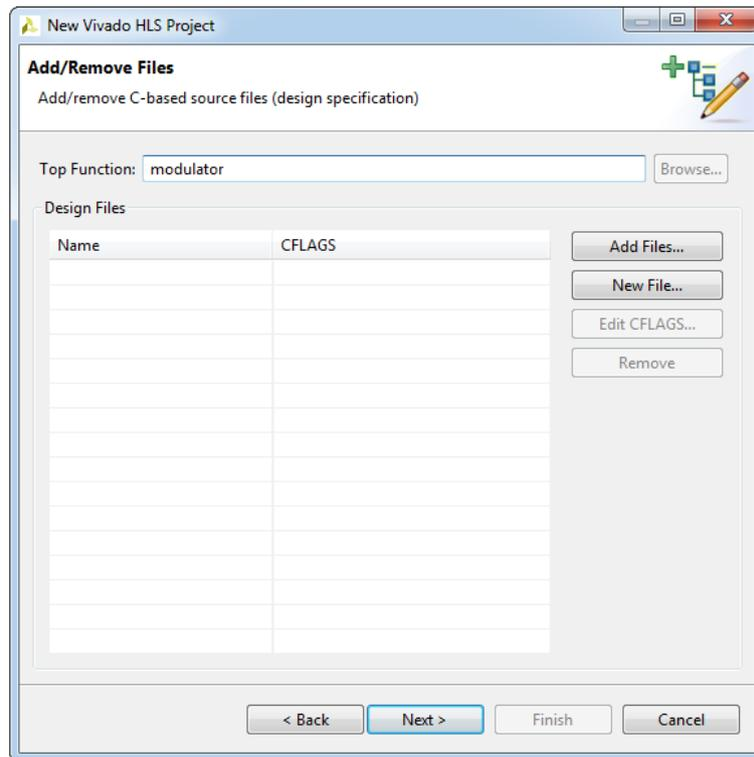

Figure 2.3: Add/Remove Files dialog box
- Specify **modulator** as the top-level function in the **Top Function** field, see Figure 2.3